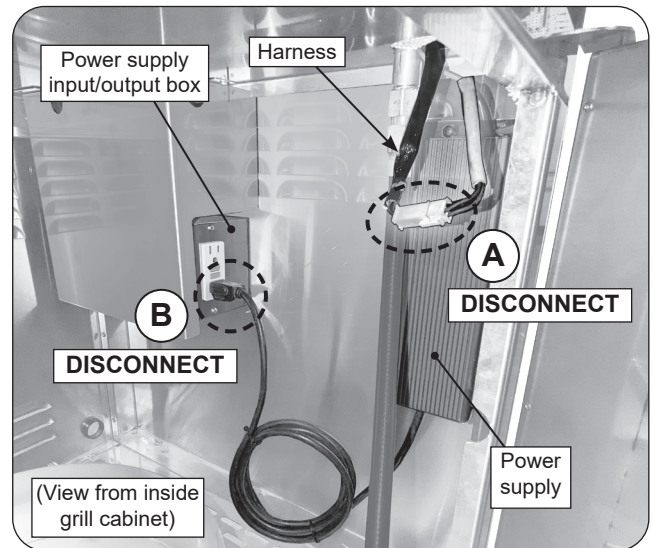

Fig. 45-1 Perform system reset
2. From inside the grill cabinet, locate the harness and disconnect it from the power supply (see Fig. 45-1, A).
3. Disconnect the power supply cord from the input/output box (see Fig. 45-1, B).